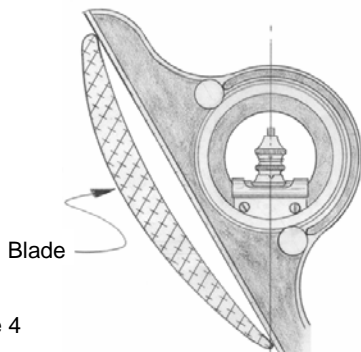
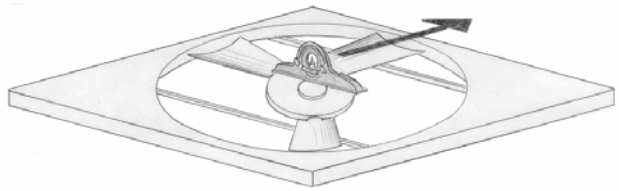

Figure 4
Figure 5
4. Place the protractor flat against the blade tip (as shown in Figure 4) and turn the turret until it indicates a balance point as in steps #1 & #2 above.
2. Place the protractor flat on the hub face or hub bushing perpendicular to the axis of a blade. If you are using a digital protractor with an "Alt-0" function, set this position as the Alternate 0°. Otherwise, turn the blade assembly around slowly until the turret indicates a balance point. See Figure 5.
3. Once the zero point is determined, move the protractor along the blade directly across from the zero point position to the tip of the blade. Mark this point on the orifice of the fan. See Figures 5 & 6. Making sure each blade is aligned with this mark, take the pitch reading by placing the protractor flat against the blade tip as shown in Figure 4.